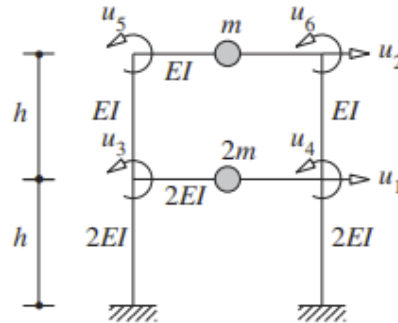

Fig 4.1
4. Determine the natural frequencies and modes of the system shown in Fig. 4.1